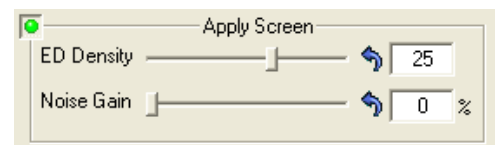

Fig. 3.4.7: Apply Screen
The “**Apply Screen**” function (Fig. 3.4.7) provides the capability to “screen” the image in preparation for thresholding which follows this function.
The Diffusion Dithering within **PhotoGrav** has been designed and optimized specifically for laser engraving and is controlled by the two parameters indicated in Fig. 3.4.7: (1) **ED Density** and (2) **Noise Gain**. (The ED stands for Error Diffusion). The “**ED Density**” parameter can be used to darken lighter areas of the processed image without substantially affecting areas that are already dark and, vice